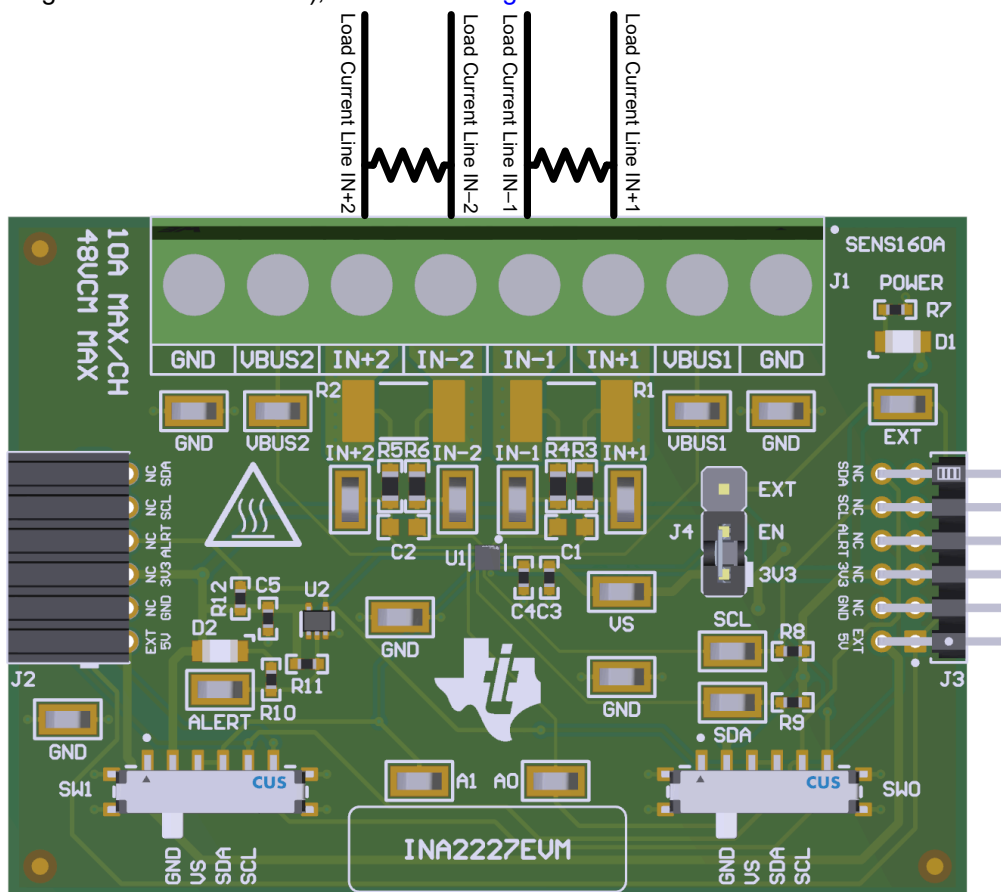

Figure 2-3. IN+ and IN– Wiring for More Than 10A
- b. Connect an external shunt across the IN+ and IN– terminals of J1 as shown in Figure 2-3.
- a. When measuring more than 10A, verify that the high current path does not go through the EVM (including the terminal block J1), as shown in Figure 2-3.